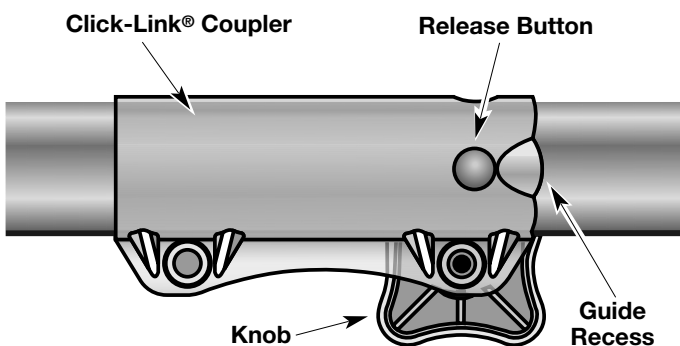

Fig. 1
1. Turn the knob counterclockwise to loosen (Fig. 1).